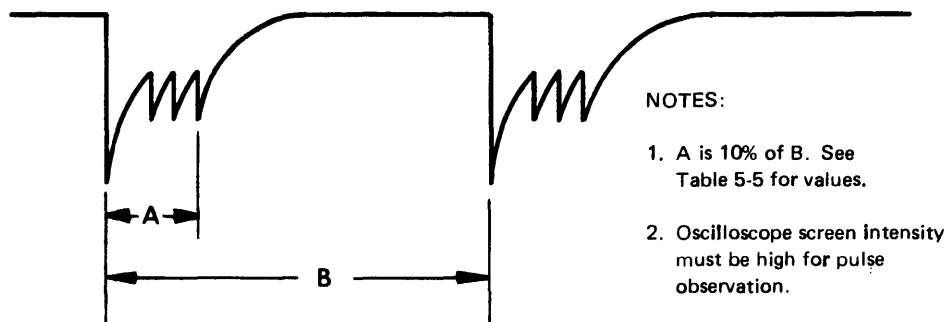

Figure 5-10. Skew Pulse at Test Point TP7
- d. Adjust azimuth screws (Figure 5-3) on head mounting plate so that outputs of all tracks, as monitored at TP7, fall within 10% or less of byte-to-byte period listed in Table 5-5. (See Figure 5-10.) Outer azimuth screw bears against recorder mounting plate and pivots head assembly outward. Inner azimuth screw threads into recorder mounting plate and pulls head assembly inward. Inner screw also serves to lock adjustment.